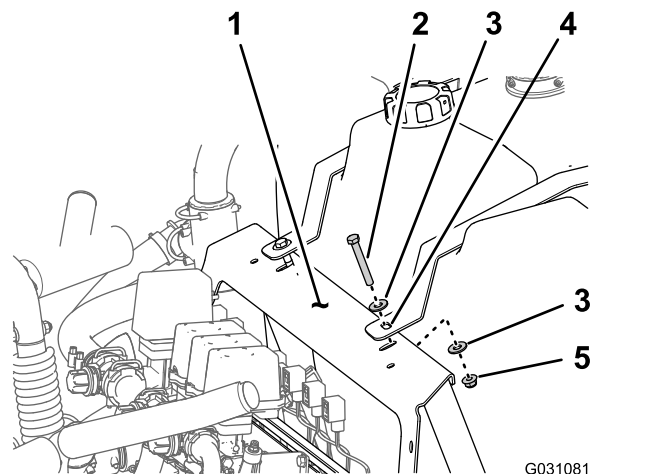

Figure 98
- A. Remove the bolts (3/8 x 2-3/4 inches), flange locknut (3/8 inch), and washers (3/8 inch) that secure the straps for the rinse tank to the manifold mount (Figure 98).